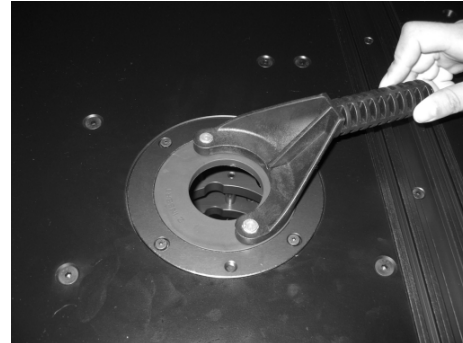

Figure 6
1. Place the insert ring into the center hole of the table top (Fig. 6).